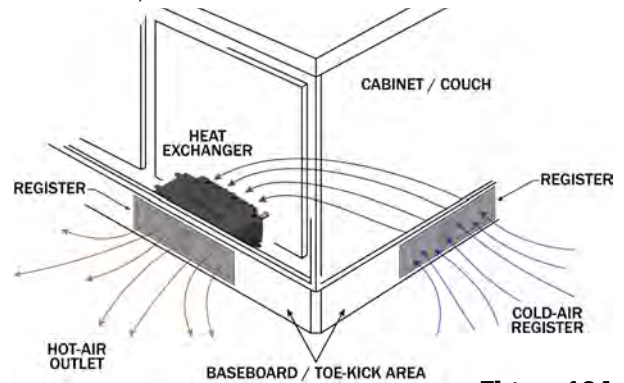

Figure 134
- Heat exchangers should be mounted as close to the hot air outlet grill as possible (reference Figure 134)